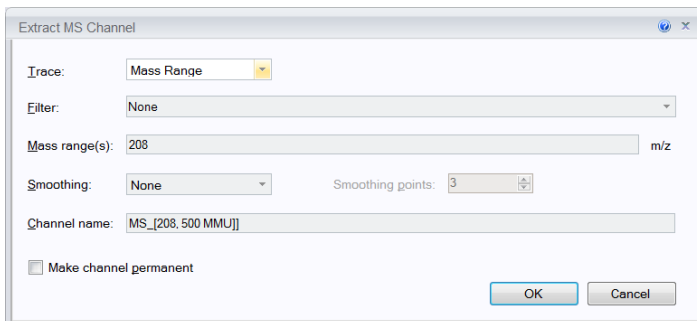

Figure 9: **Extract MS Channel** dialog box
- Right-click a mass peak in the mass spectrum and select **Extract Ion Chromatogram...** from the context menu. The **Extract MS Channel** dialog box opens (Figure 9).